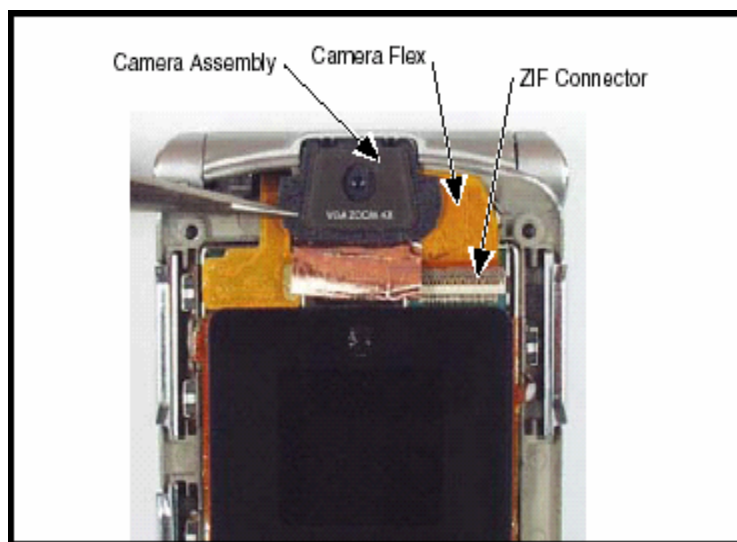

Fig 13
3. Carefully lift the camera assembly and flex out of the flip assembly (see Figure 13).